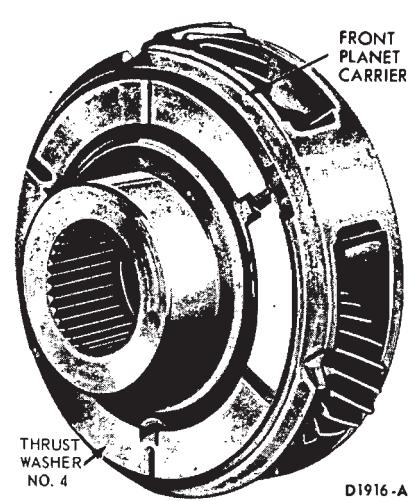

FIG. 108—Installing Front Planet Carrier
26. Install thrust washer No. 4 on the front planet carrier (Fig. 107). Install the front planet carrier into the forward clutch hub and ring gear. Check the forward thrust bearing race inside the planet carrier for proper location against the thrust bearing. Make sure the race is centered for alignment with the sun gear on the input shell (Fig. 108).